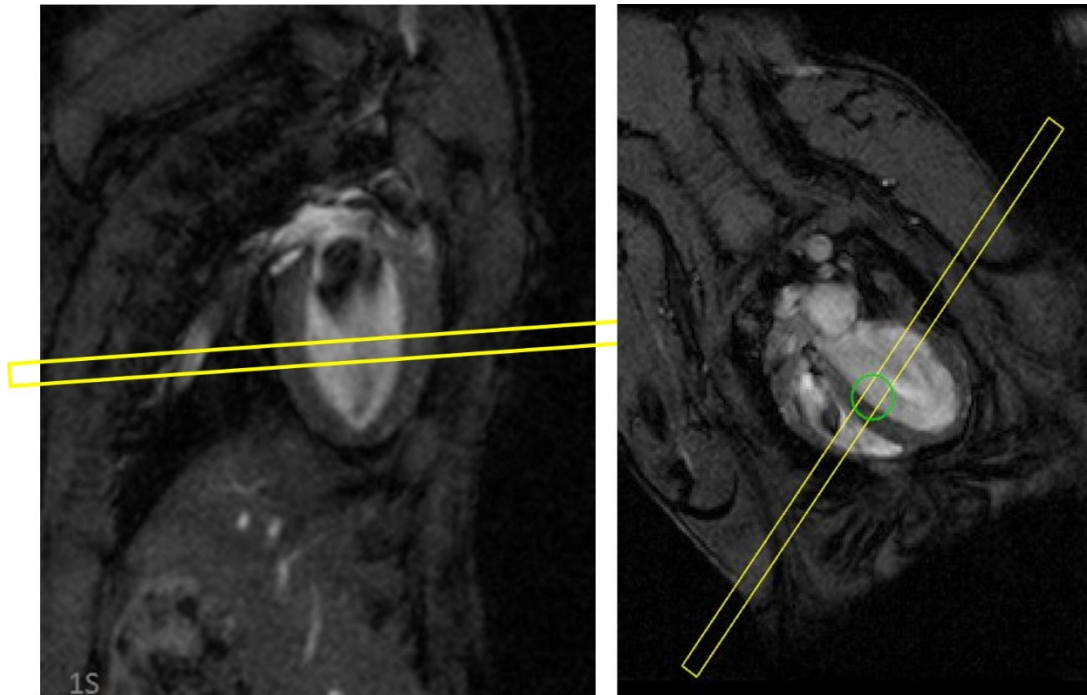

Figure 7: Planning of short-axis slice orientation.
- Load “3. Scout_4CH” and “4. 2CH_final”, and plan as shown in **Figure 7**.